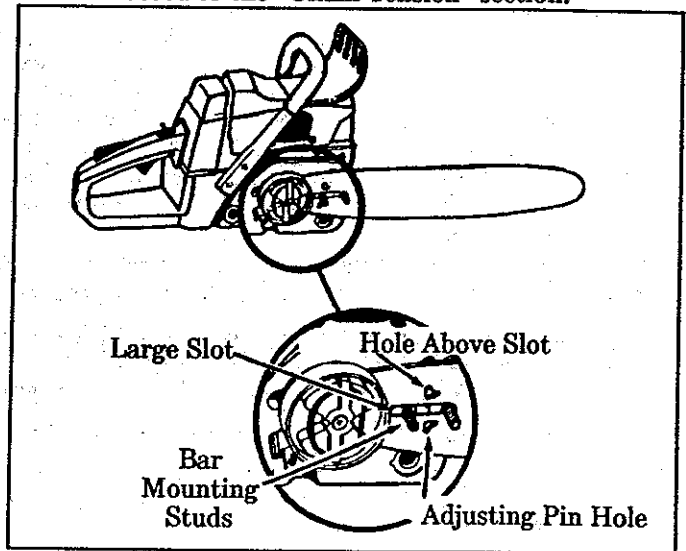

Figure 8
3. Mount the guide bar with the slotted end over the mounting studs. Figure 8. Position the adjusting pin in the adjusting pin hole. Figure 8.